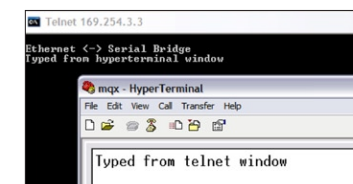

Figure 4: Ethernet to Serial Bridge
- The serial console and the telnet sessions should be "bridged." Type some characters into the telnet session, and you should see the characters appearing on the console terminal window. See Figure 4 for how it would appear.